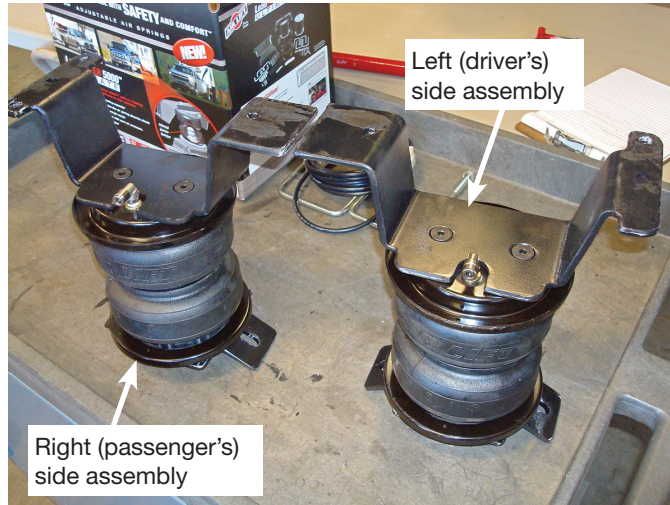

fig. 15
5. Figure 15 shows both left and right assemblies ready to install.